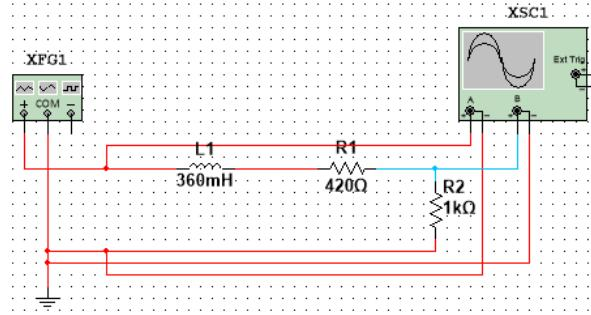

Figure 4.4: Lab #4 RL Simulation
E. Simulate the circuit in Figure 4.4. Record three to four cycles of both the input and output.
- B. Construct Figure 4.4 on the breadboard. Keep in mind two things when constructing the circuit: